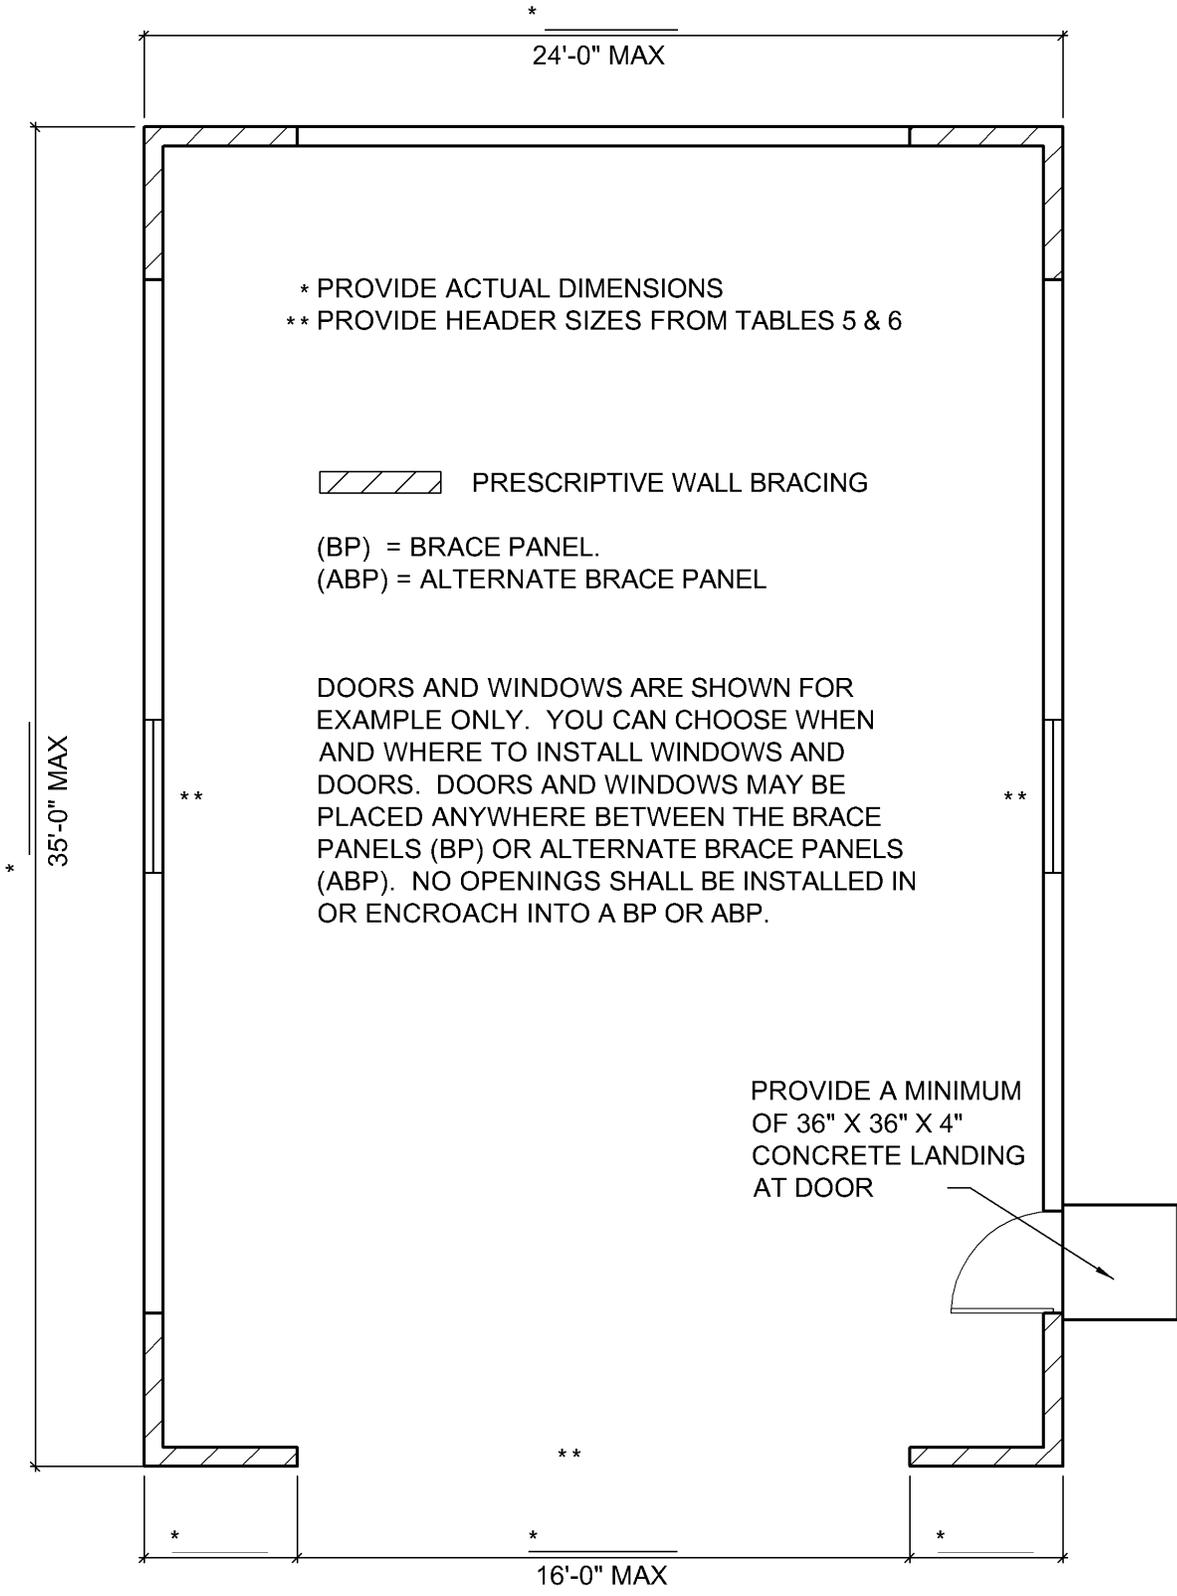

FIGURE 1
The building needs to be provided with wall (lateral) bracing at each corner and along the wall at certain points. Lateral bracing strengthens the building to resist high wind loads or earthquakes from causing it to collapse. This can be accomplished by standard brace panels (BP) or alternate brace panels (ABP). A **brace panel** is a minimum 4-foot wide plywood panel nailed to the wall at each corner and every 25 lineal feet along the wall. The BP (See *Figure 1, 6, and 7a*) is nailed to the wall studs, sole plate, and top plate with minimum 6d galvanized nails spaced not more than 6 inches apart on all edges and not more than 12 inches apart on intermediate studs, commonly referred to as “field nailing” (1-3/4 inch long, 16 gauge galvanized staples may also be used). The 4x8 or 4x10 BP panel must be attached with the long side vertically so all edges bear on a stud, sole plate, and top plate (See *Figure 7b*) for nailing at lap edge of T-1-11 panel siding). **Alternate brace panels** can be narrower than 4 feet in width (minimum 32 inches) but require additional anchorage and nailing to provide the required bracing (See *Figures 1, 6, and 8*). ABPs cannot be more than 10 feet in height. Each ABP shall be sheeted with minimum 7/16-inch panel siding, OSB, or CDX **plywood**. **The sheeting shall be nailed to the studs with 8d galvanized nails (staples are not acceptable) spaced not more than 6 inches apart on all edges and not more than 12 inches apart on intermediate studs. All edges of the sheeting must bear on the wall studs, sole plate, and top plate or be**